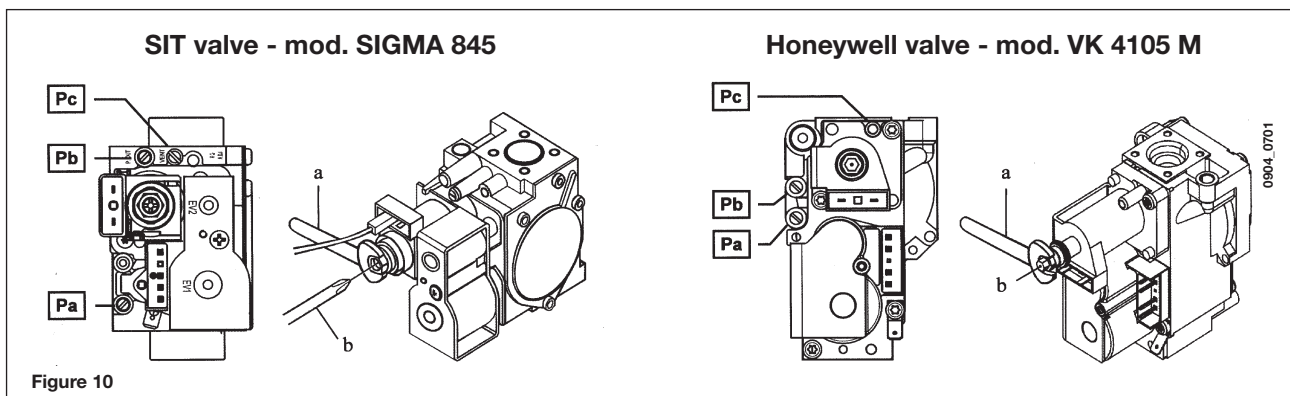

Figure 10
The procedure for calibrating the pressure regulator varies slightly according to the type of gas valve fitted (HONEYWELL or SIT, see figure 10).
- connect the positive pressure test point of a differential pressure gauge (possibly water-operated) to the gas valve pressure test point (Pb) (Figure 10). Only for models with sealed chambers, connect the negative pressure test point of the pressure gauge to a "T" fitting in order to join the boiler adjustment outlet, the gas valve adjustment outlet (Pc) and the pressure gauge. (The same measurement can be made by connecting the pressure gauge to the pressure test point (Pb) after removing the front panel of the sealed chamber). Measuring burner pressure using methods other than those described could lead to incorrect results as the low pressure created by the fan in the sealed chamber would not be taken into account.
- make sure that the dynamic inlet pressure of the boiler, measured at the gas valve pressure test point (Pa) (Figure 10) is correct (37 mbar for propane or 20 mbar for natural gas).